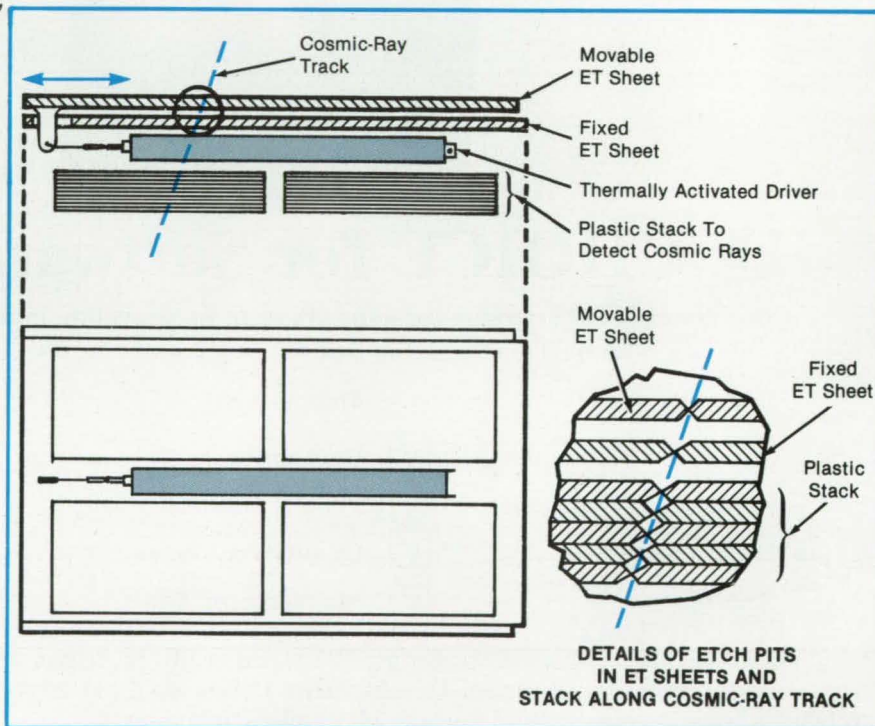

Figure 1. Actinide Cosmic Rays will be detected using the thermally activated driver as the heart of the event-thermometer (ET) system.
One requirement in this technique is that the temperature of the plastic stacks at the time a track is produced, a critical item of information in the analysis of etch pits, must be known to within  $1^{\circ}\text{C}$ . The precise TAD was developed to be the heart of the event thermometer (ET) system that will be used on the mission. The ET system is illustrated in Figure 1. Two plastic sheets